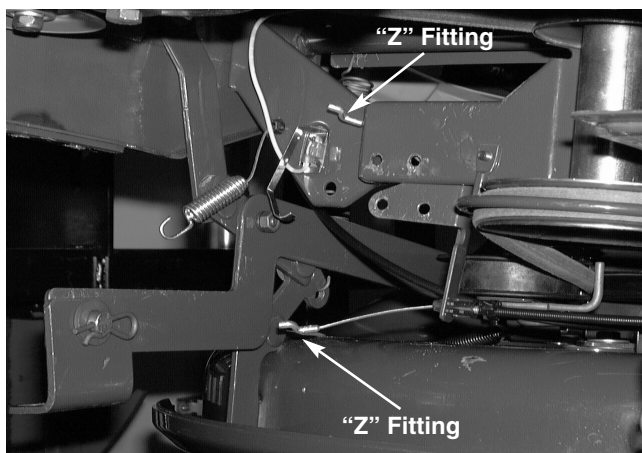

FIGURE 9.
- 12). Slide the transmission slowly to the rear and remove the shift cable "Z" fittings from the shift lever. See figure 9.